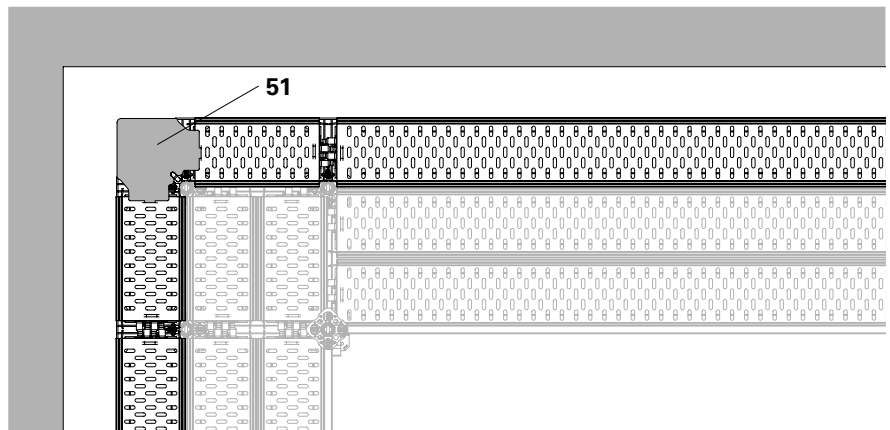
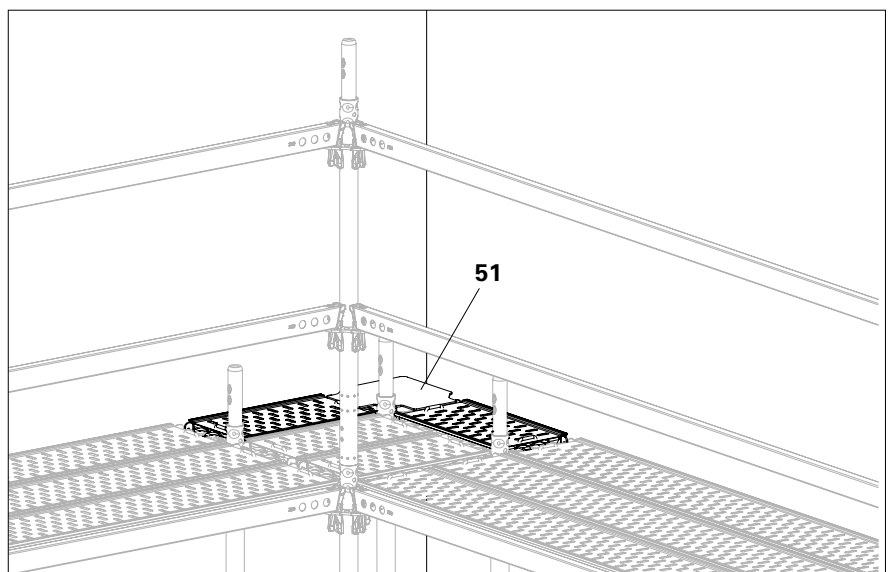

Fig. A7.05
Fig. A7.05c
6. Engage the bolt completely in the brace adapter of the rosette. (Fig. A7.05c)
- The sheeting is now fixed in position (Fig. A7.05 + Fig. A7.05c)